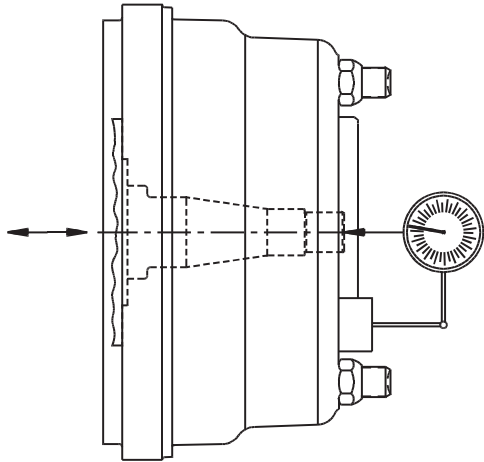

Figure 10 - Wheel End Play Measurement
5. Place the tip of the dial indicator on the center of the steering knuckle spindle. Set the dial indicator on zero. **(Figure 10).**